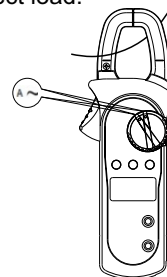

Figure 12
10. AC current measurement (A \sim) (shown in Figure 12)